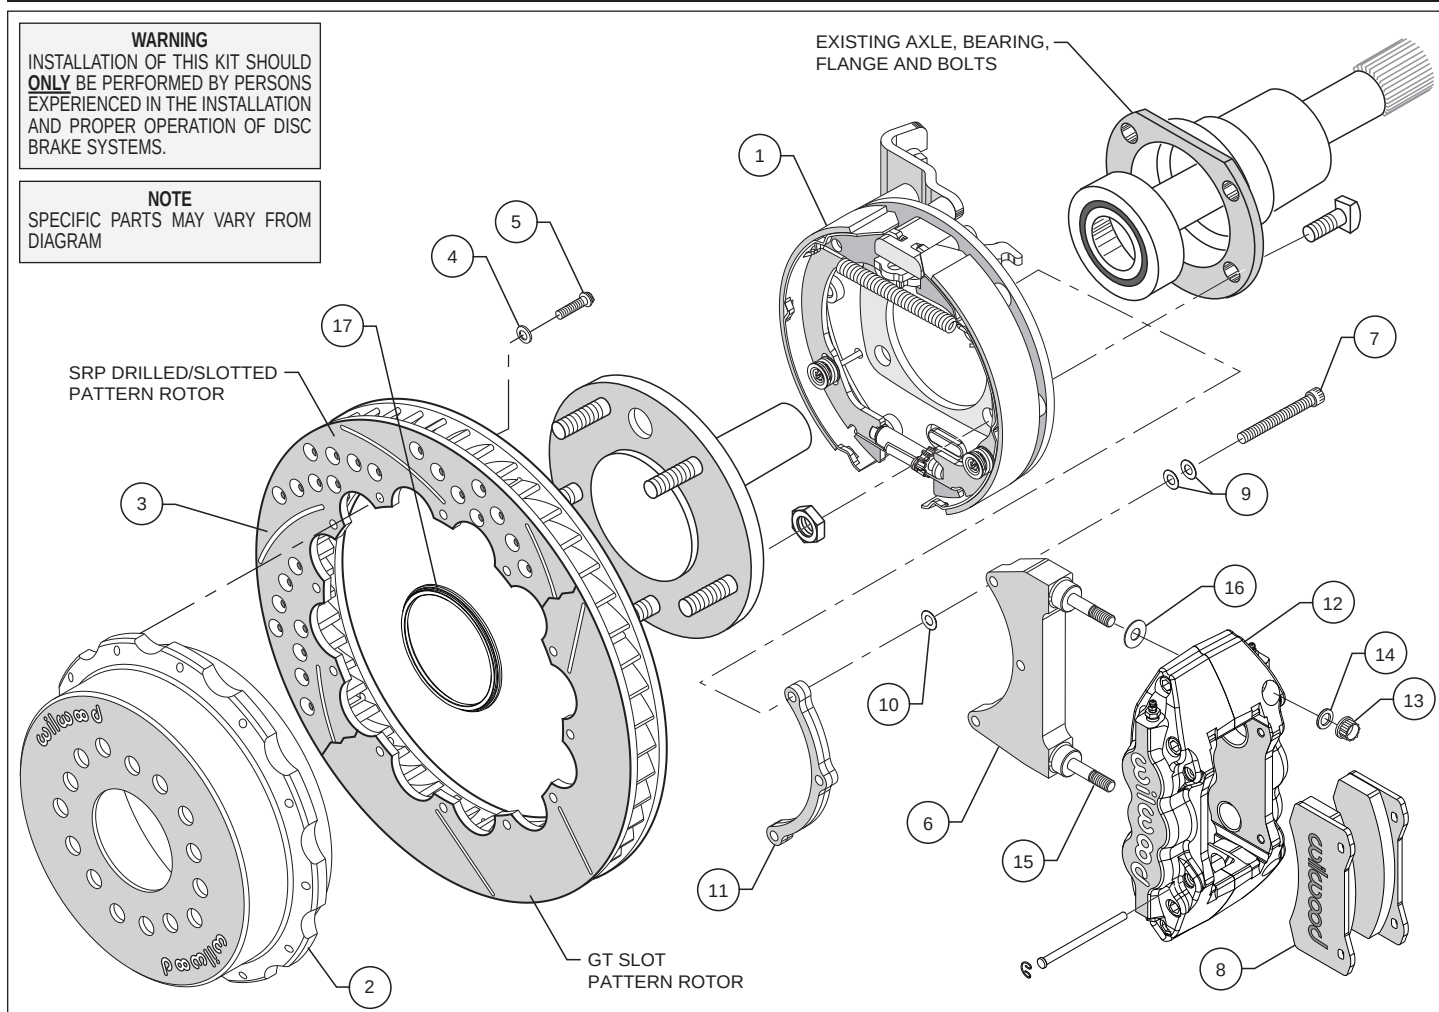

Figure 1. Typical Installation Configuration
- Slide the rotor registration adapter (17) onto the axle register on the axle flange with the smaller O.D. facing toward the rotor/hat (2). Align the correct hole pattern in the hat with the stud pattern on the axle flange. **NOTE:** Some OEM and aftermarket axles come with stud sizes larger than 0.50" diameter. Verify stud size and have a qualified machine shop drill the hats to the correct size, if necessary. Slide the hat/rotor assembly (2 and 3) over the wheel studs covering the bracket kit assembly (1) and against the axle flange face. Check to be sure the hat seats squarely against the hub. Install three lug nuts (finger tighten) to keep the rotor/hat assembly in place while continuing with the installation.
- **NOTE:** Please reference the caution statement at the beginning of the assembly instructions. The caliper mounting bracket assembly (6) should be installed first with clean, dry threads on the mounting bolts (7). Install the bracket from the rear side of the bracket kit assembly (1) by sliding bolt (7) through two flat washers (9), bracket (6), shim washer (10) and finally through the spacer (11), see Figure 1. **NOTE:** End of bolt should not exceed inside face of insert. The bracket must tighten squarely against the back side of the bracket kit assembly (1). Inspect for interference from casting irregularities, machining ridges, burrs, etc. Use one thin shim (10) between the bracket (6) and spacer (11) during initial trial fitting.
- Lubricate caliper mounting studs and nuts with lightweight oil. Install one washer (16) over each pre-installed stud (15) on the radial mount bracket (6). Slide the caliper (12) in place over the studs and rotor, then install the washer (14) and lock nut (13) to hold the caliper in place. The caliper bleed screws should be pointing up. Snug the lock nuts (13) and check that the rotor (3) is centered in the caliper (12). Add or subtract .015" shims (10) as necessary between the caliper mounting bracket (6) and the spacer (11) to center the caliper (12).
- Remove the two caliper pad retaining pins from the caliper (12) by popping out the pin retaining clips and sliding out the pins. Slide the brake pads (8) into place. They should install easily without interference. Check that the outside radius of the brake pad is flush with the outside diameter of the rotor face. Add or subtract shims (16) between the caliper (12) and mount bracket (6) to gain the proper alignment. Reinstall the pad retainer pins and secure using the pin retaining clips.
- Adjust the parking brake shoes outward (using a drum shoe adjustment tool available at your local auto parts store) while spinning the hat (2) until a slight drag is felt against the hat/drum. Remove the lug nuts that were holding the hat/rotor in place. Install the wheel and lug nuts. Check to see that the wheel rotates freely without interference.
- Once all clearances have been checked, remove the wheel, caliper, hat/rotor from the bracket kit assembly (1). Secure the caliper mounting bracket (6) to the bracket kit assembly (1) using red Loctite® 271. Torque bolts (7) to 180 in-lb. Reinstall the hat/rotor assembly and again use lug nuts to hold it in place. Reinstall the caliper, torque the caliper nuts (13) to 47 ft-lb.
- **NOTE:** Clevis and cable kits which attach to the parking brake assembly are not included in the Wilwood parking brake kit. Wilwood offers a generic style parking brake cable kit, P/N 330-9371 for this application which can be ordered separately from your local Wilwood dealer or by calling Wilwood customer service at (805) 388-1188.